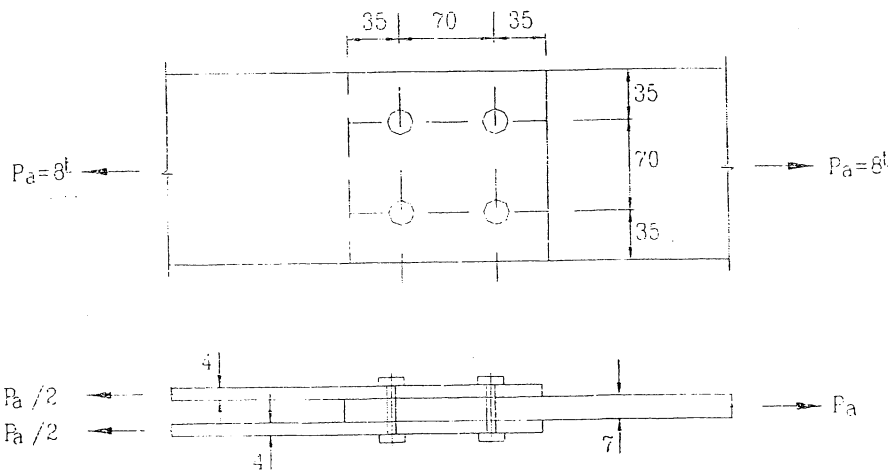

Figure 2
4. Check the safety of the connection shown in Figure 2. Use four 14 mm diameter non-pretensioned grade 4.6 ordinary bolts, and St. 37 of yield stress equals 2.40 t/cm^2 . Assume that washers are used under bolt head and nut and use standard holes.